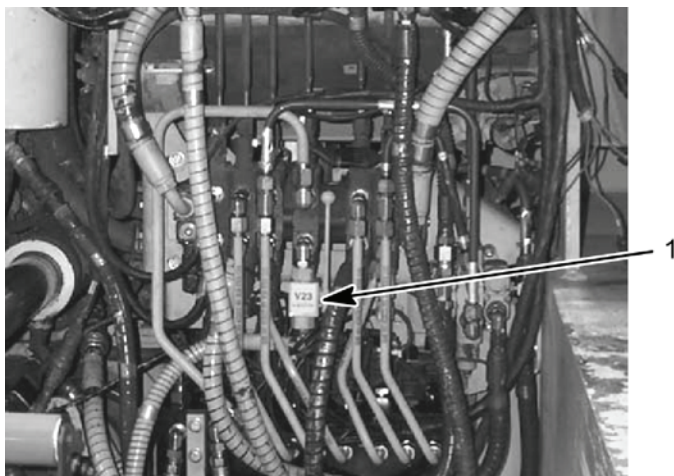

Figure 3. DCV Bank
- Disable ejector by manually closing ejector inhibit ball valve V23 (Figure 3, item 1) on the DCV bank.
- Using LINE UP or LINE DOWN button (Figure 4, item 3), select V1 on the HDC display (Figure 3, item 2). Close V1 on the HDC display (Figure 4, item 2) by selecting the CHANGE POSITION button (Figure 4, item 4) on the HDC control box.